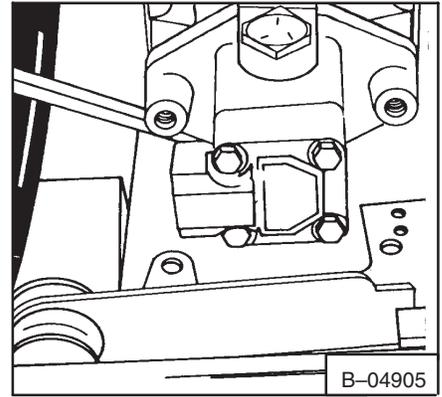

**Fig. 2-29** Removing Bolt
- Remove the steering linkage and adjustment bolt (Fig. 2-29).